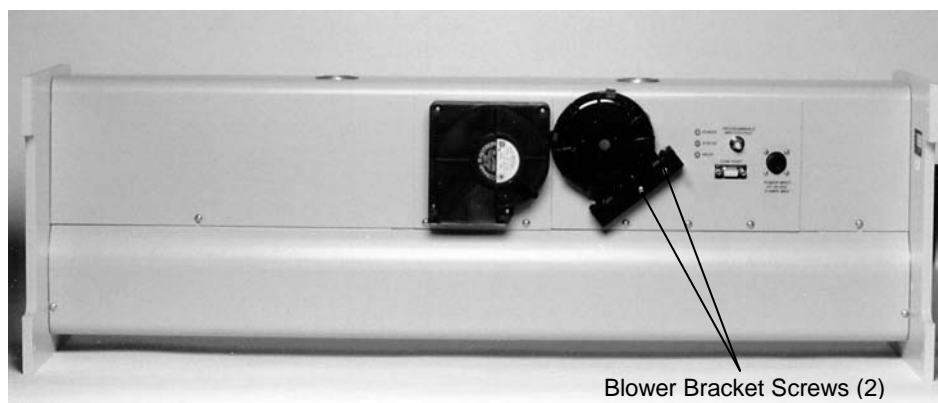

Figure 2-7
2. Remove the two screws attaching the blower bracket to the Nephelometer (Figure 2-7).